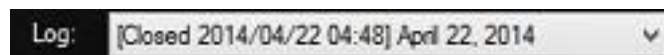

Figure 5.4-2: Example of a Closed Log
3. The name of the log file will automatically change to "Closed" along with the date and time at which it was closed (Figure 5.4-2).